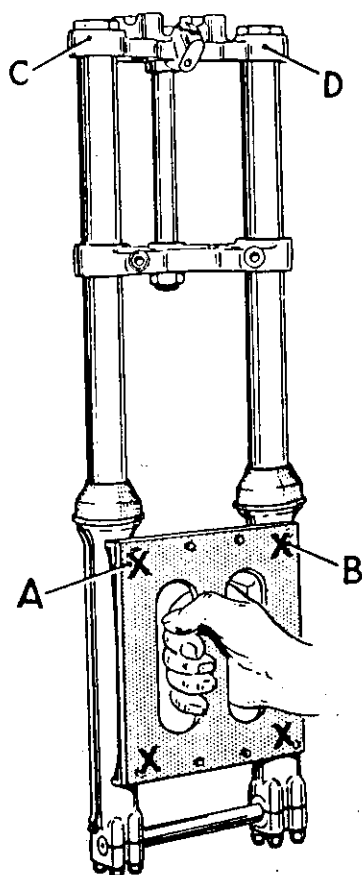

Fig. E9a. Checking fork alignment with service tool No. 61-6025.
Hold the alignment gauge firmly against the fork legs as shown in Fig. E9a, and check that the gauge contacts at all four corners. If the gauge does not make contact at point (A) then this indicates that point (B) is too far forward.
To remedy this condition slacken off the two bottom yoke pinch bolts and also the stem sleeve nut pinch bolt (C) Fig. E2a, and give point (C) Fig. E9a, a sharp blow using a lead hammer used in conjunction with a soft metal drift.